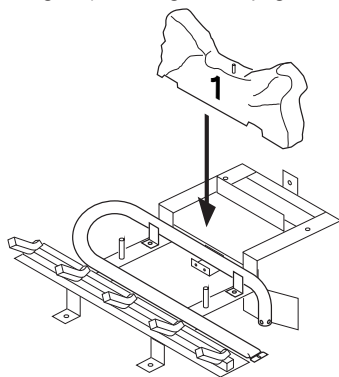

Figure 45 - Installing Log No. 1
1. Place log #1 (rear log) on top of grate. Make sure notches in bottom of log fit over grate (see Figure 45).